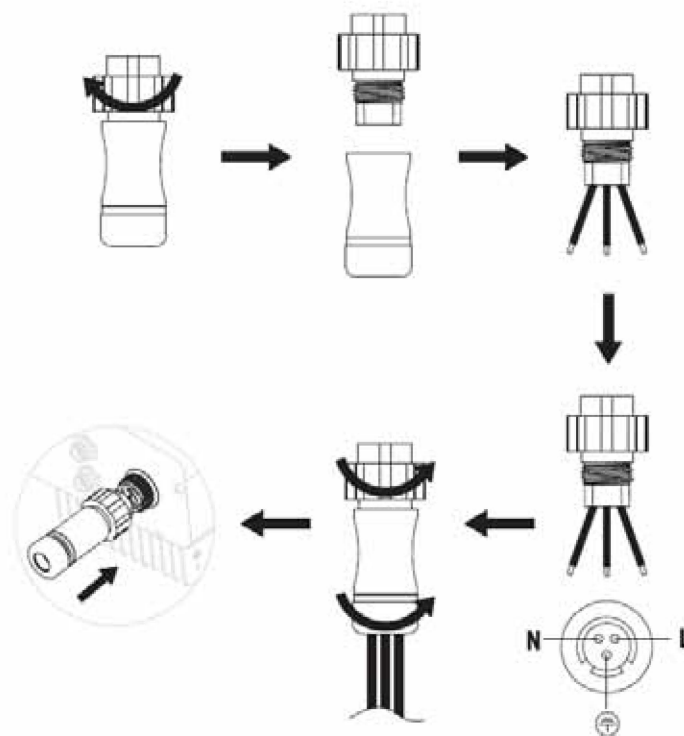

Figure 4.9 AC connection of single-phase inverter
- (1) Before connecting the single-phase AC grid cable to the inverter, take lightning and short circuit protection measures in accordance with the local electrical safety codes;
- (2) As shown in Figure 4.9, connect and fasten L, N and PE conductors of the single-phase common grid to AC terminal tighten to 0.5 Nm, assemble the terminal tighten to 2.5-3 Nm, and then connect the terminal to the AC port of the inverter.
- (3) Fix and connect the DC output cables of PV board with the matched DC connectors, and then connect the connectors to the DC port of the inverter.